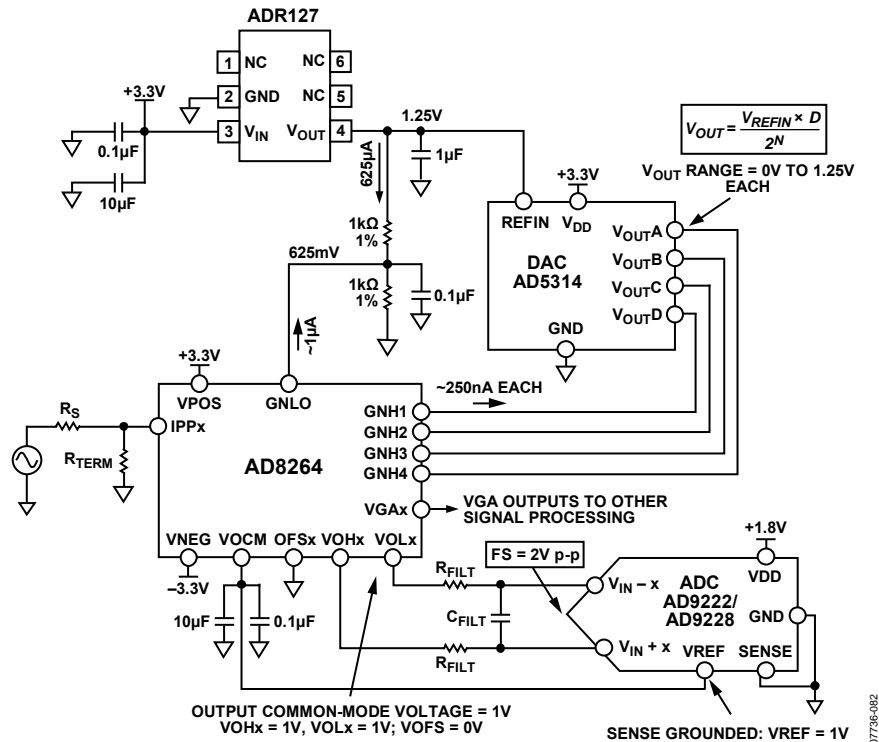
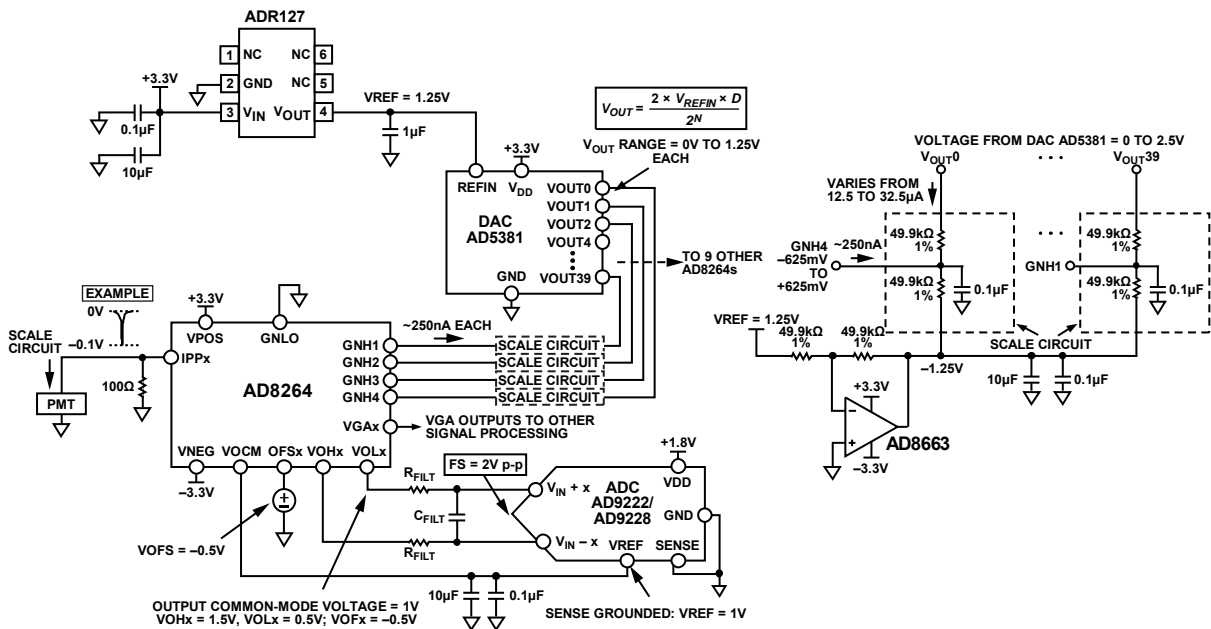

Figure 112. Application Concept of the AD8264 with the AD5314 10-Bit DAC and the AD9222/AD9228 12-Bit ADC
Figure 113. Concept Application of AD8264 with 40-Channel AD5381 12-Bit, 3 V DAC and AD9222/AD9228 12-Bit ADC
The AD8264 is particularly well suited for use in the analog front end of medical PET imaging systems. Figure 112 shows how to use the AD8264 with the AD5314 (a 4-channel, 10-bit DAC) and the AD9222/AD9228 (an octal or quad, 12-bit ADC, respectively). The DAC sets the gain of the AD8264. Note that the full gain span of 24 dB is achieved with this setup because the gain control input range of the AD8264 is very close to 1.25 V. The GNLO pin must offset by 1.25/2 = 625 mV because the gain control input is bipolar around the voltage applied at GNLO. This is done with two 1 kΩ, 1% resistors. The approximately 1 μA of bias current flowing from the GNLO pin does not contribute a significant error because the basic gain error of the AD8264 is the limiting factor.
Figure 112 also includes the DAC output equation, which indicates that the output can vary between 0 V and VREF = 1.25 V.
The single-ended-to-differential amplifier of the AD8264 amplifies the VGA output signal by 6 dB and can provide the required dc bias of the AD9222/AD9228, as shown in Figure 112. The ADC is connected with the default internal reference because the SENSE pin is grounded. With this connection, the AD9222/AD9228 VREF pin is an output that provides 1 V; this is then connected to the VOCM input of the AD8264, which sets the output common-mode voltage of the VOHx and VOLx pins to 1 V. This voltage is very close to the recommended optimal value of VDD/2 = 0.9 V. With this configuration, the ADC inputs are set to a full-scale (FS) of 2 V p-p.
The dc connected concept example in Figure 113 is an application with the 40-channel AD5381, 3 V, 12-bit DAC. The main difference between this example and Figure 112 is that, for the same ADR127 1.25 V reference, the full-scale output of the DAC is from 0 V to $2 \times V_{REFIN} = 2.5$ V. Two options for gain control include the following:
- Use the same circuit as in Figure 112 but use only half the DAC output voltage from 0 V to 1.25 V. This is the simplest solution, requiring the fewest extra components. Note that the overall gain resolution increases by one bit to 11 bits over the 10-bit AD5314.
- Ground GNLO and scale the DAC output so that the GNHx inputs vary from -0.652 V to $+0.625$ V. Figure 113 shows a possible circuit implementation using a divider between the DAC output and a -1.25 V reference.
Figure 113 shows how the AD8264 is connected in a PET application. The PMT generates a negative-going current pulse that results in a voltage pulse at the preamplifier input and a differential output pulse on VOLx and VOHx.
A convenient method of verifying and customizing the signal chains shown in Figure 112 and Figure 113 is by ordering the corresponding evaluation boards available on www.analog.com. The AD8264-EVALZ is a platform through which the user can quickly become familiar with the features and performance capabilities of the AD8264. See the Evaluation Board section for more information.